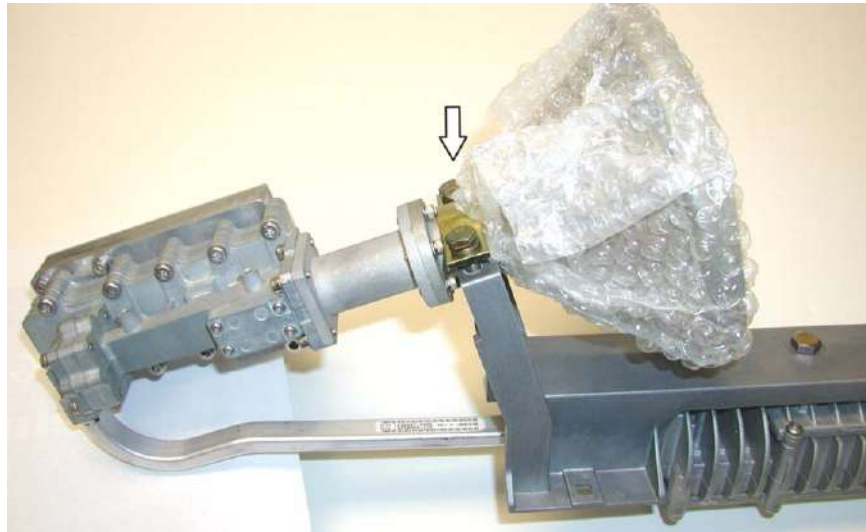

Figure 31: Securing the feed horn clamp (arrow)
6. Place the feed horn clamp over the neck of the feed horn, as shown in Figure 31.